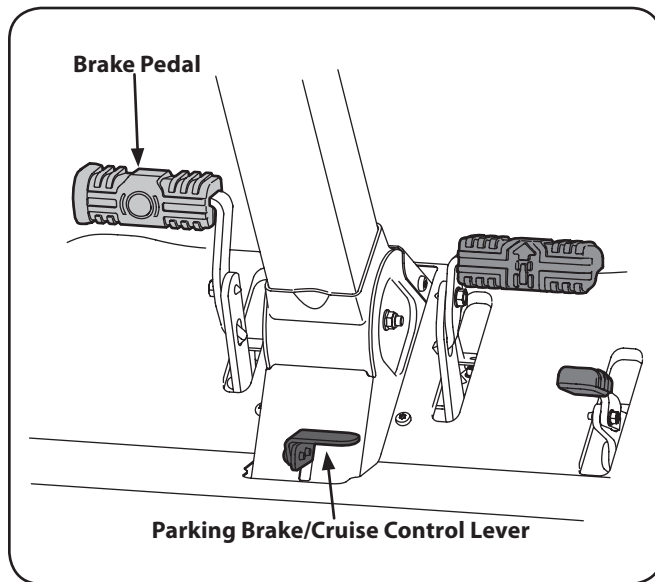

Figure 5-1
2. Engage the parking brake by pressing forward on the brake pedal (○), then press down on the parking break/cruise control lever and then release the brake pedal (○). Refer to Figure 5-1.
3. Make certain the PTO switch is in the disengaged (down) position. Refer to Figure 5-1.